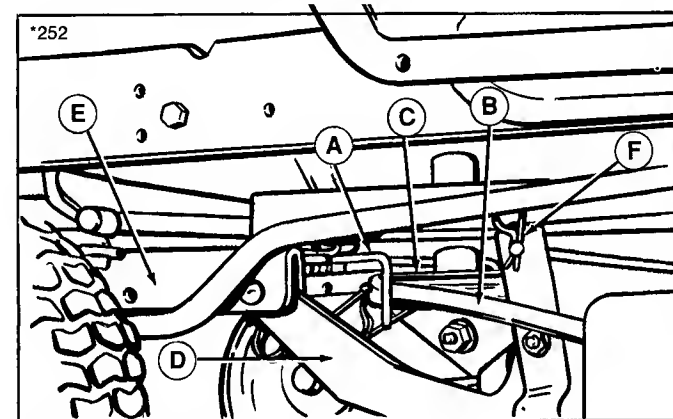
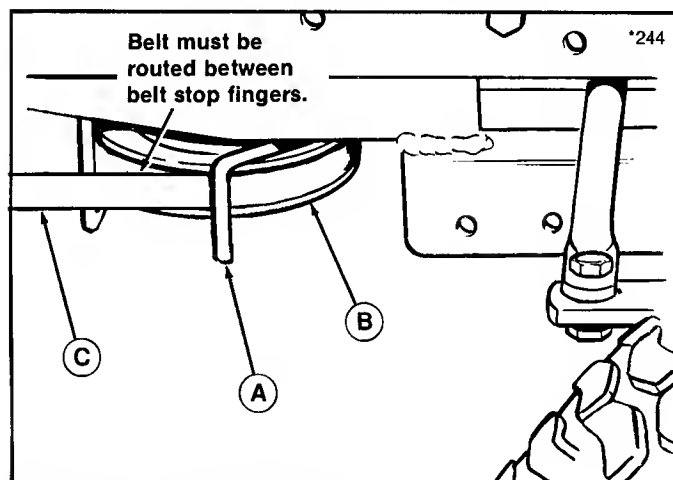
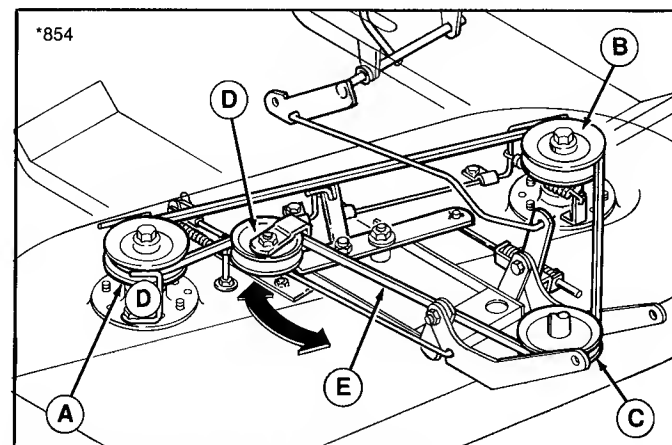

Figure 4. Left-Hand Belt Stop
Figure 5. Right-Hand Belt Stop
Figure 6. Mower Belt Pattern - 36"
6. Slip the mower drive belt onto the PTO pulley (C, figure 4). Loosen belt stops as necessary. The left-hand belt stop (A) is shown in figure 4. The right-hand belt stop is shown in figure 5. Make sure that the belt is routed between belt stop fingers. Check routing of belt by referring to figure 6.